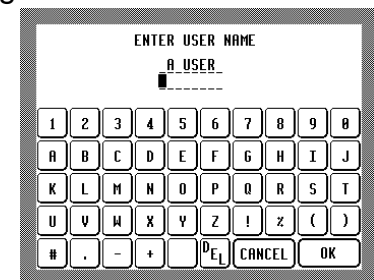

Figure 21 – Text Input
- Touch **Add** and the Text Input screen will appear – see Figure 21.
- Touch **Test Name** to input the name. The Text Input screen will be displayed (see Figure 21 Page 27).
- Touch **Symbols** to input the chemical symbols. The Text Input screen will be displayed (see Figure 21 Page 27).